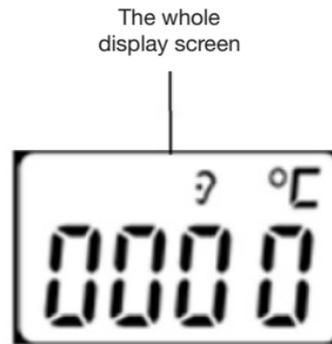

Figure 2.7B
2. When the screen shows as figure 2.7B and the temperature unit °C is blinking, then the user can start to take measurement.